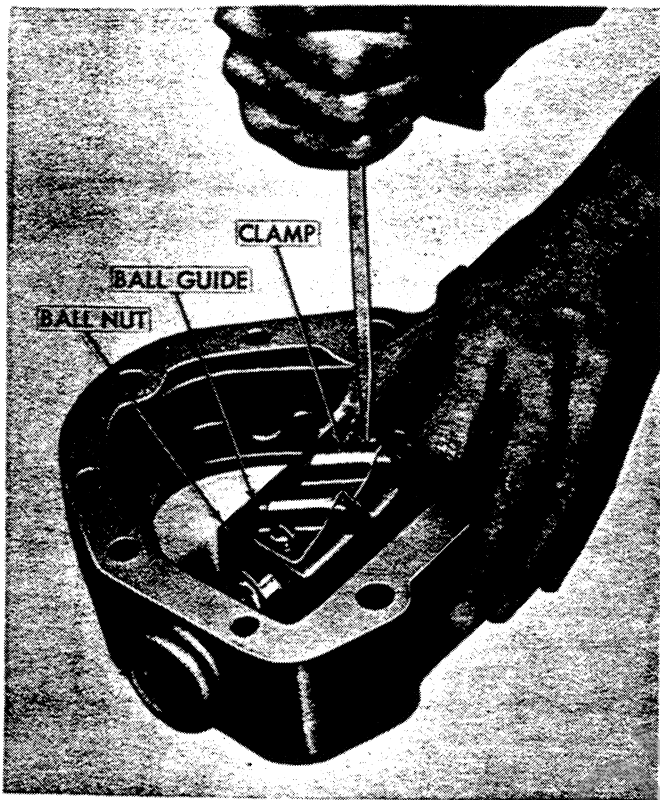

Figure 11
- a. With the ball nut rack facing down as shown in Figure 11, remove the two screws and the clamp that secure the two split ball bearing guides to the ball nut.